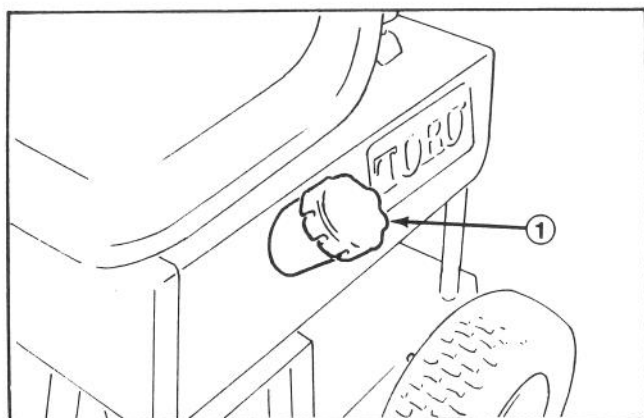

Figure 11
1. Clean around the fuel tank cap so foreign matter cannot enter the filler hole when the cap is removed. Next, remove the cap from the fuel tank (Fig. 11).